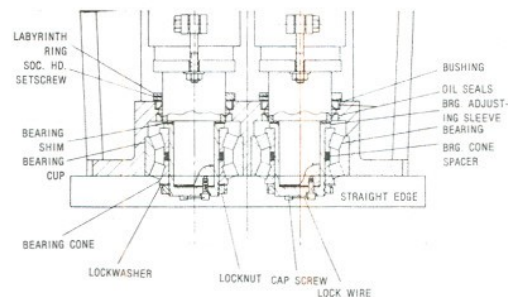

Fig. 8-7.13
- d. Install shims and adjusting sleeve. For location see Fig. 8-7.13.
16. Install outboard gear and bearing spacers (41).
17. Install front head roller bearing inner races (40).
18. Replace and tighten roller bearing locknuts (46 & 48). Tighten locknuts firmly to insure all bearing rings are securely locked. Secure the locknut with setscrew (47).
20. Replace rear cover gasket (99) and rear cover (101).
21. Replace front head gasket (99). Install the outer races of the front head bearings (40) as applicable. Replace front head (80).
22. Replace front head oil seal (93) and front head checkseal (139).